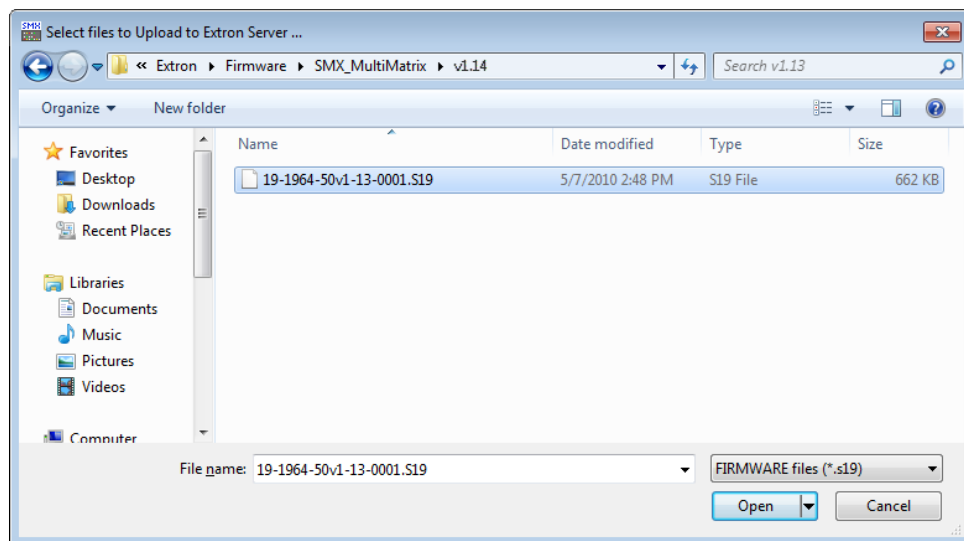

Figure 42. Select Files Window with Firmware File Selected
3. From the Tools menu, select **Update Firmware...**. The Select Files window opens (see figure 42).